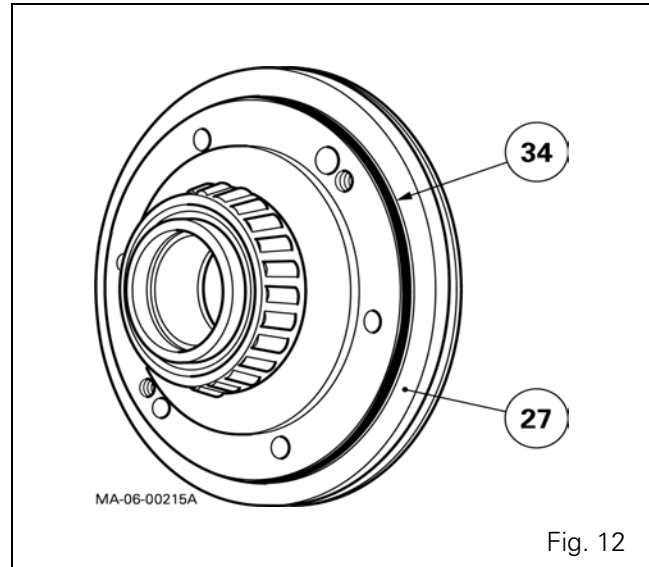

Fig. 12
43. Check that the following parts are present on the right-hand differential support (27):
- the "O" ring (34) (Fig. 12);
- the bearing cone (31).